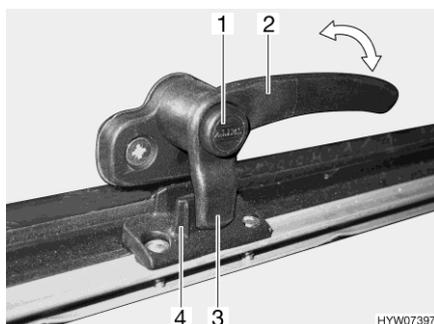
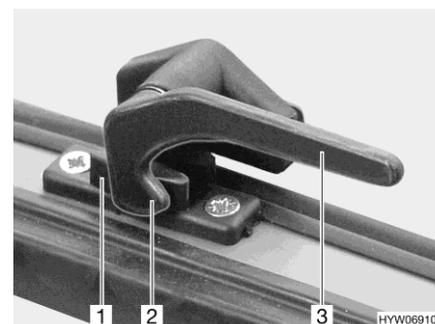

Fig. 113 Catch lever with safety knob in "closed" position
Fig. 114 Catch lever in "closed" position
- Press and hold the security button (Fig. 113,1), if present.
- Turn all catch levers (Fig. 113,2 or Fig. 114,3) a quarter turn towards the centre of the skylight.
- Turn all catch levers (Fig. 113,2 or Fig. 114,3) a quarter turn towards the frame. The locking catch (Fig. 113 or Fig. 114,2) is located on the inside of the skylight lock (Fig. 113,4 or Fig. 114,1).
- "Firmly closed" (Fig. 113 and Fig. 114)